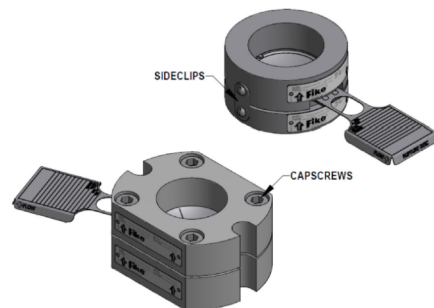

Figure 2 - Insert Holder (Top) and Pre-torqueable Holder
- Carefully take the rupture disc holder apart by removing the sideclips or capscrews and discard the white shipping protector (See Figure 2).